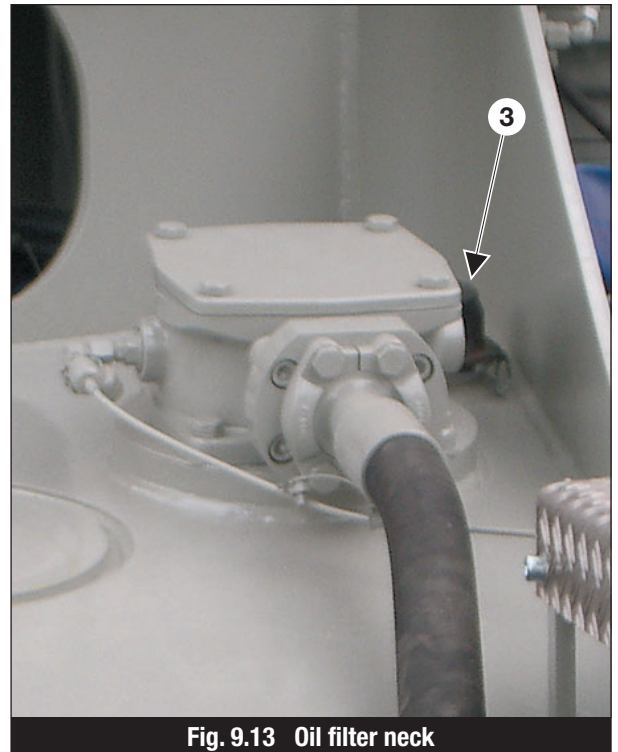

Fig. 9.13 Oil filter neck
3. Open the filler neck cap (Item 3, Fig. 9.13).
9. Close the filler neck cap (Item 3, Fig. 9.13) or the return flow filter.